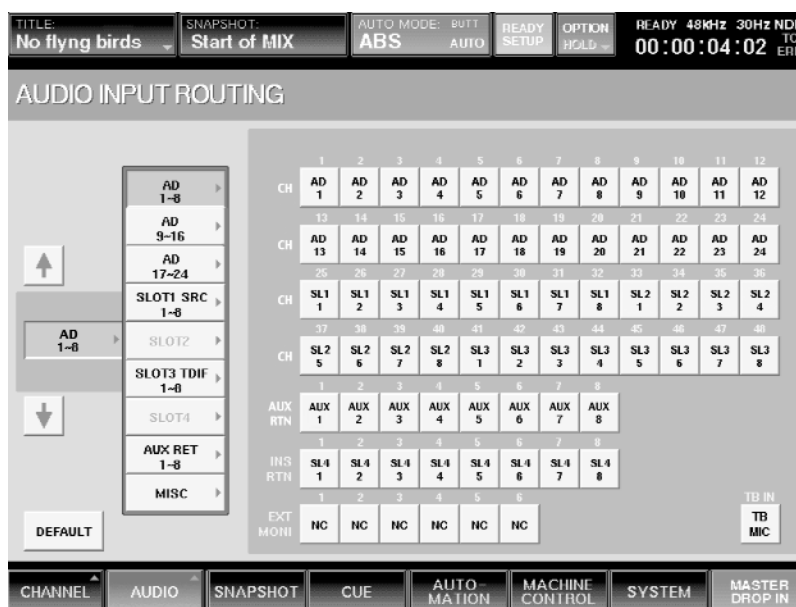

Figure 14
- 2 Press the SOURCE button on the left of the screen. A menu of possible sources (in groups of 8; the exact listing will depend upon the number and types of expansion cards installed in your DMX-R100) will drop down. (See Figure 14)